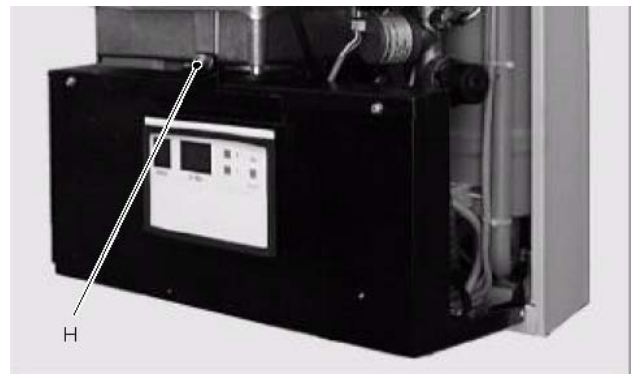

Fig 5
- 2 Remove the screw H (fig 5) and lower the control panel.